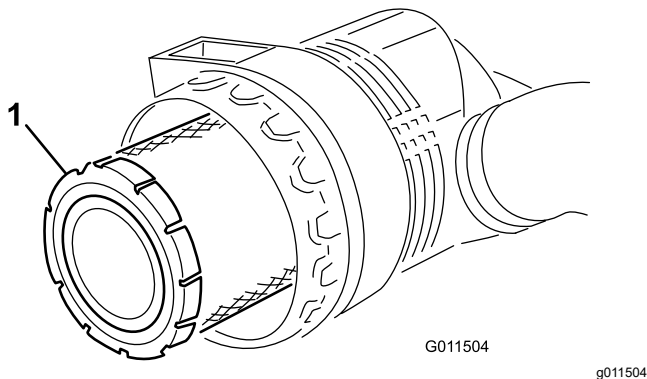

Figure 88
5. Remove and replace the primary filter (Figure 88).